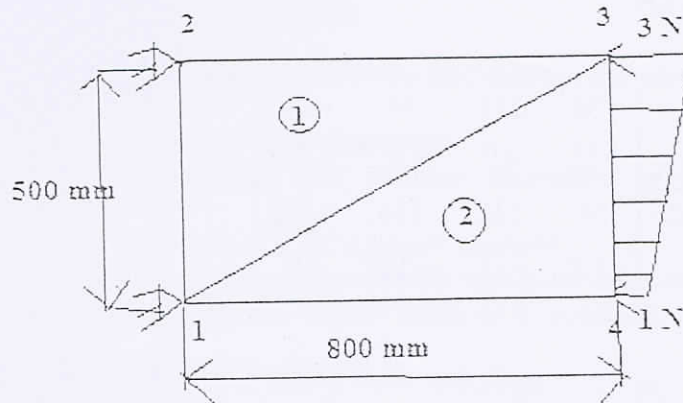

Fig 14b
14. b) (i) Determine the strain displacement matrix, Constitutive matrix and nodal force vector for the element as shown in fig 14b. How is the stiffness matrix derived (12 Marks)